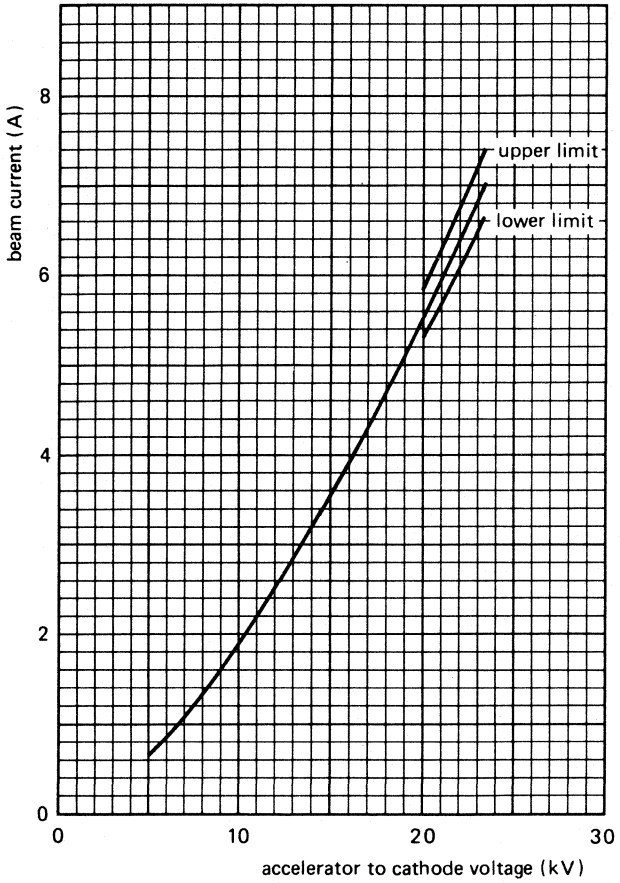

Fig. 3.
8. If the accelerator electrode is connected to the body (ground) via a 10 k $\Omega$  resistor, the beam current is within  $\pm 5\%$  of the value given in the graph of Fig. 3.